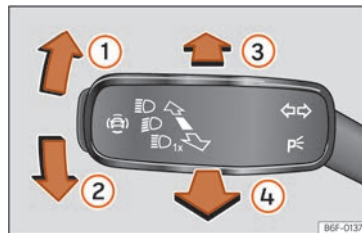

Fig. 94 Turn signal and main beam lever.
- From the base position, press the turn signal and main beam headlights lever forwards »» Fig. 94 .
- **OR:** if the main beam assist is on, pull the turn signal and main beam headlight lever backwards »» Fig. 94 .